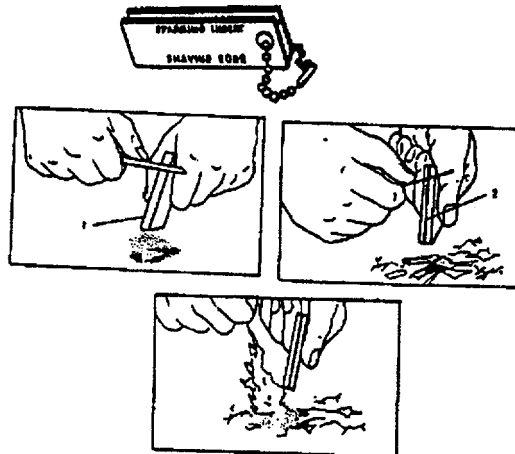

Figure 2-14. Fire Starter, Magnesium
- (1) Shave the narrow side (opposite the sparking insert) of the fire starter (1, Figure 2-14) with the knife held perpendicular to the starter. Chips will not produce fire.
- (2) After accumulating magnesium shavings over an area about the size of a quarter, place the shavings next to tinder (paper, cloth, small twigs, or bark).
- (3) Support edge of the fire starter on the ground within 1 inch (2.5 cm) of the magnesium shavings at approximately a 45-degree angle. Scrape the entire length of the sparking insert (2, Figure 2-14) rapidly, holding the knife blade perpendicular to the sparking insert. This action will generate sparks; cause the magnesium shavings to ignite; and create a white, hot flame.